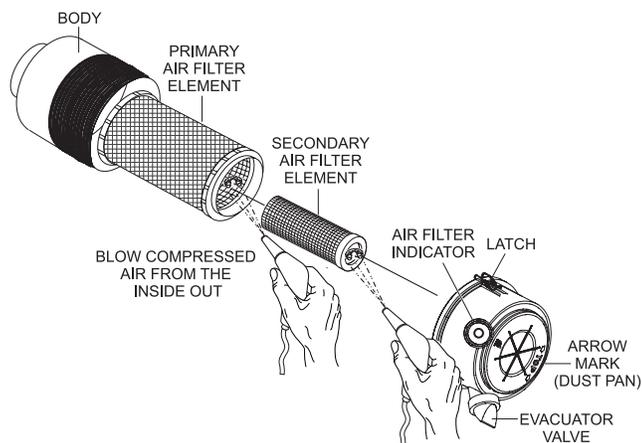

Figure 61. Engine Air Cleaner
This Isuzu diesel engine is equipped with a replaceable, high-density, paper air cleaner element (Figure 61). The air cleaner is also equipped with an inner (secondary) element that is used as a backup filter should the primary element become damaged. Check the air cleaner daily or before starting the engine. Replace the air cleaner as needed.
1. Release the latches that secure the cover to the air cleaner body (Figure 61).
2. Remove the **air cleaner cover** (Figure 61) and set it aside.
3. Remove both the primary and secondary air cleaner elements (Figure 61).
5. To clean the **primary element** (paper air filter) as shown in Figure 61, tap the filter element several times on a hard surface to remove dirt, or blow compressed air, not to exceed 30 psi (207 kPa, 2.1 kgf/cm²), through the filter element from the inside out.
8. Clean the inside of the **air cleaner body** (Figure 61).